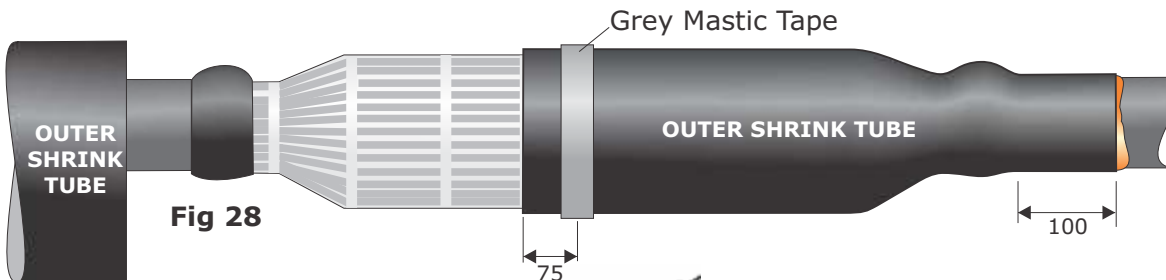

Fig 28
39. Apply a band of the grey mastic tape approx. 75mm from the end of the tube as shown in Fig 28.